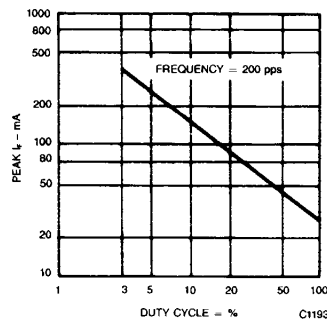

Fig. 3. Max Peak Current vs. Duty Cycle
2. The curve in Figure 3 is normalized to the brightness at 25°C to indicate the relative efficiency over the operating temperature range.